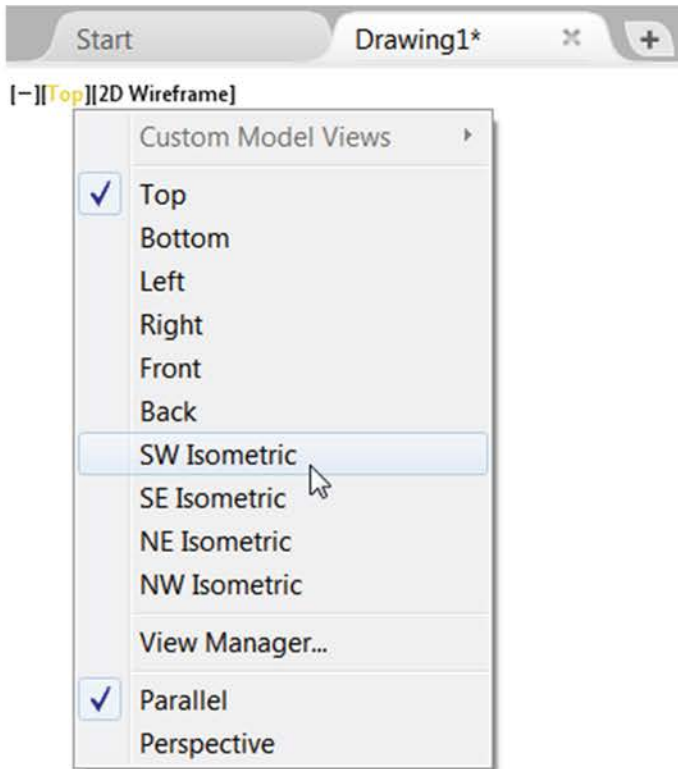

Fig. 9.6 Selecting SW Isometric from the View drop-down menu in the viewport controls at the top-left corner of the drawing window (Viewport)
3. Click **SW Isometric** in the **View** drop-down menu (Fig. 9.6).
1. In the above example, we made use of an isometric view possible from the **View** drop-down menu in the viewport controls (Fig. 9.6).